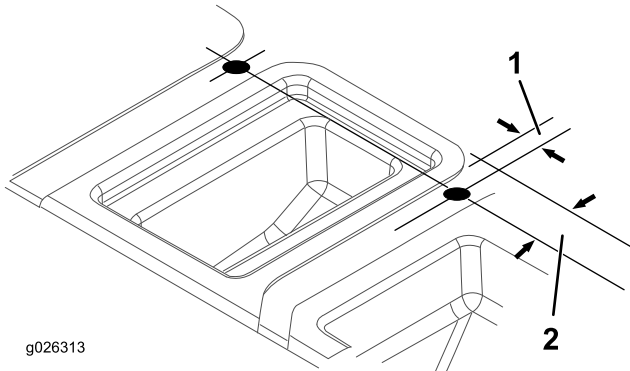

Figure 10
7. Using the dimensions shown in Figure 10, locate, mark, and drill 2 holes in the top of the seat shroud.